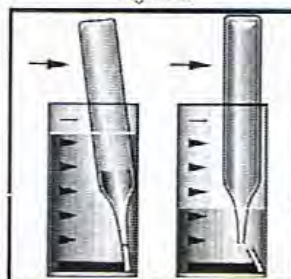

Figure 3
5. Place the CHEMet ampoule in the sample cup. Snap the tip by pressing the ampoule against the side of the cup. The ampoule will fill leaving a small bubble to facilitate mixing (fig 3).